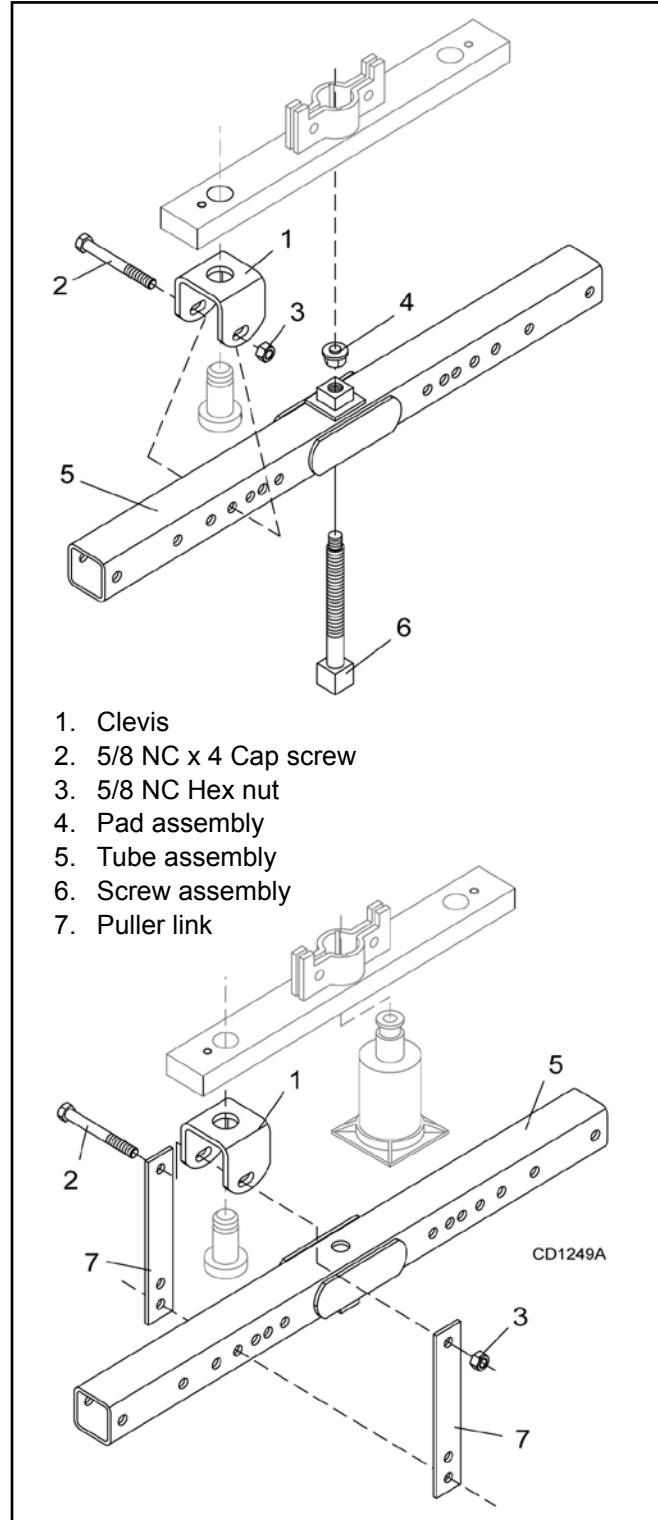

**Figure 19.** Blade Removal
2. To make crossbar removal easier, remove blades as shown in Figure 19.